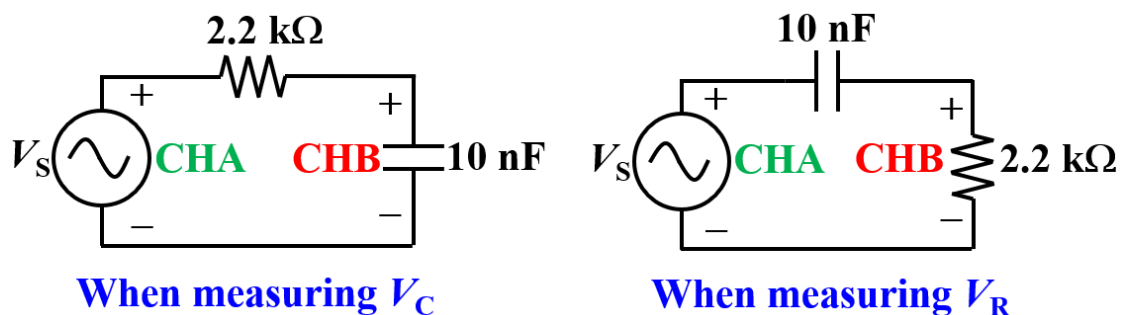

Figure 3: We need to swap the positions of the capacitor and resistor for measuring V_R .
8. Next, we will perform measurements for the resistor voltage V_R . To do so, we need to first perform some rewiring to swap the position of the resistor and capacitor in the circuit. **Why do we need to swap the elements?** BitScope's CHA and CHB probes measure the voltage waveforms w.r.t. ground. (This is true for most other oscilloscopes too.) Hence, you cannot measure V_R unless one of the two ends of the resistor is connected to ground. Figure 3 below illustrates how you should connect your circuit when measuring V_R using CHB (while keeping CHA for measuring V_S).